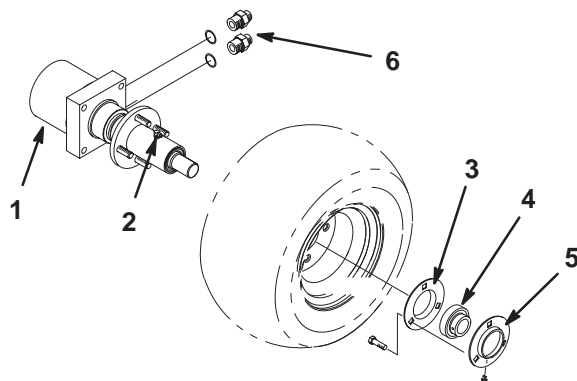

Figure 1
1. Remove grease fitting from motor and hub assembly (Fig. 1).
5. Mount 2 straight fittings to side of motor assembly (Fig. 1).